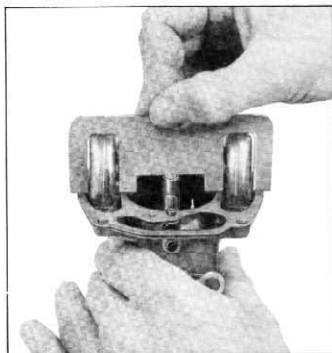

Fig. 93—Float Adjustment Check
7. Place fuel float gauge, part No. 3696192, into position (fig. 93) with tang at center of gauge located in the main discharge nozzle of the cover.